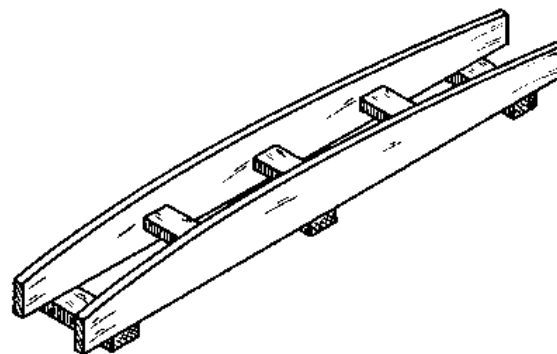

Fig. 2
- Two wooden planks or sheets of plywood are connected by spacers, so that the archstones are supported on their outer edges (Fig. 2). Both turning pieces must be precisely cut and planed to the same shape, and must match with the curve of the intrados.